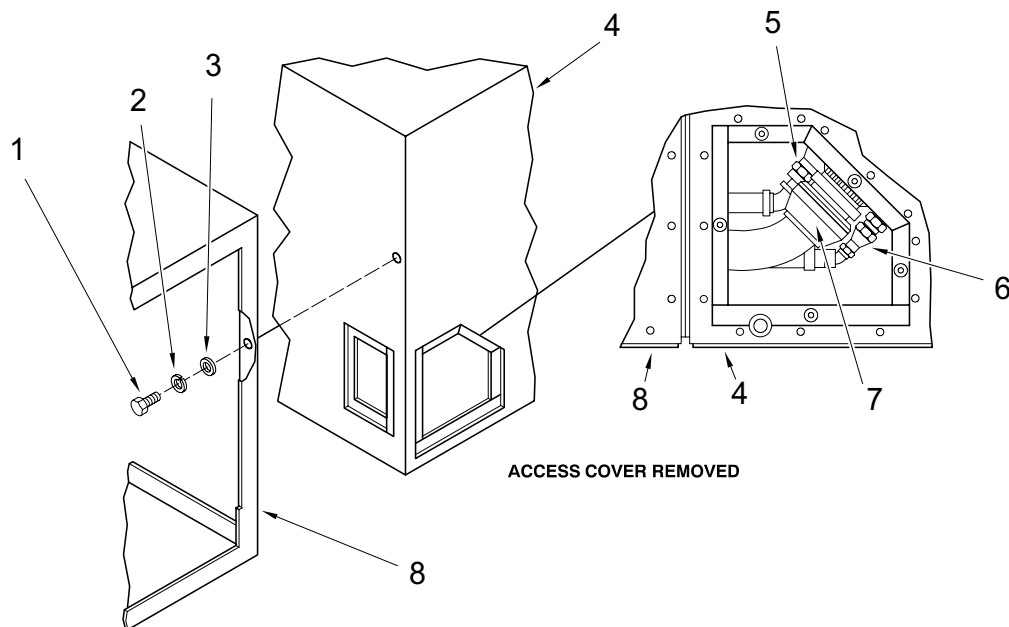

Figure 1. EVAPORATOR /CONDENSER ASSEMBLY - SEPARATION AND RECONNECTION.
1. Remove cap screws (1), lockwashers (2), and flat washers (3) that hold the evaporator (4) and condenser (8) assemblies together. See Figure 1.
2. Disconnect the P3 (7) connector.